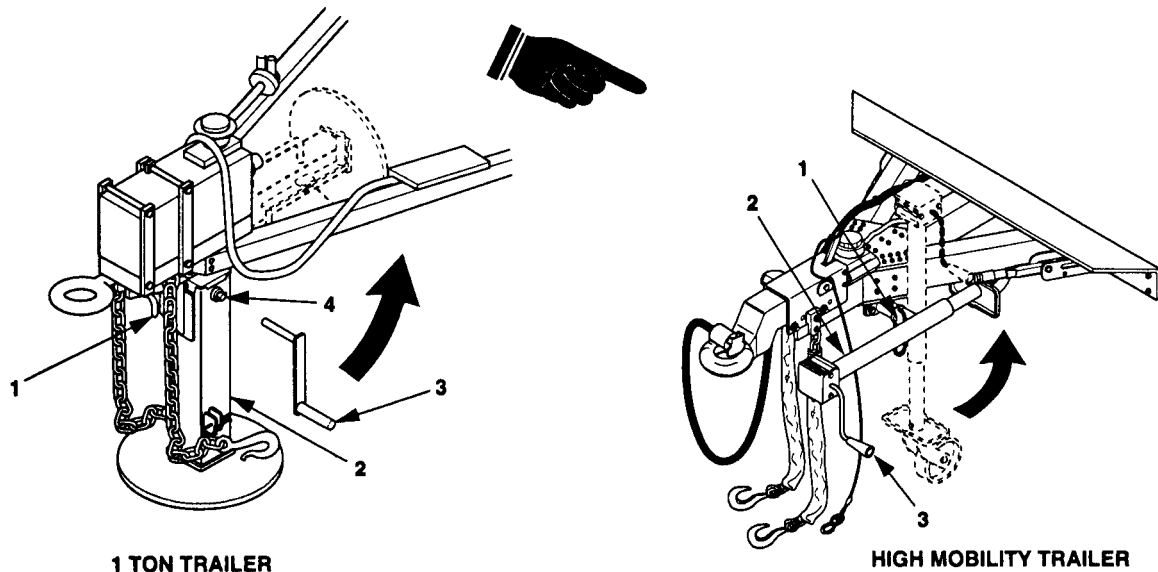

Figure 2-4. Lowering Trailer Front Support Leg.
- (1) Pull out spring-loaded plunger on 1 ton trailer or pin on high mobility trailer (1, figure 2-4).
- (2) Push support leg (2) down.